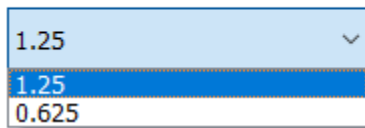

Fig.10 Charge Ref Voltage pull-down menu
The Charge Ref Voltage (V) pull down menu (Fig.10) allows selection between the default value (1.25) or  $\frac{1}{2}$  of the reference voltage (0.625) in order to approximately double the Charge Time per the equation in the datasheet.